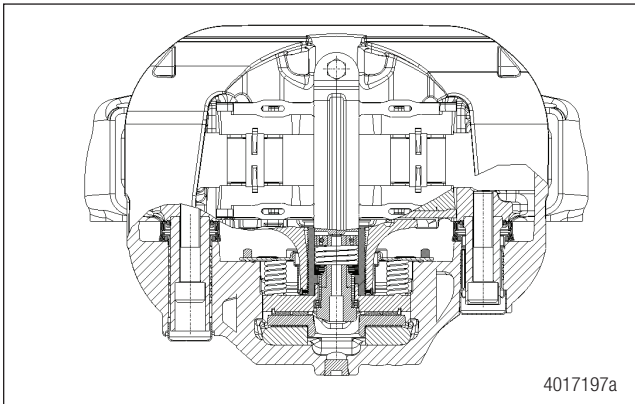
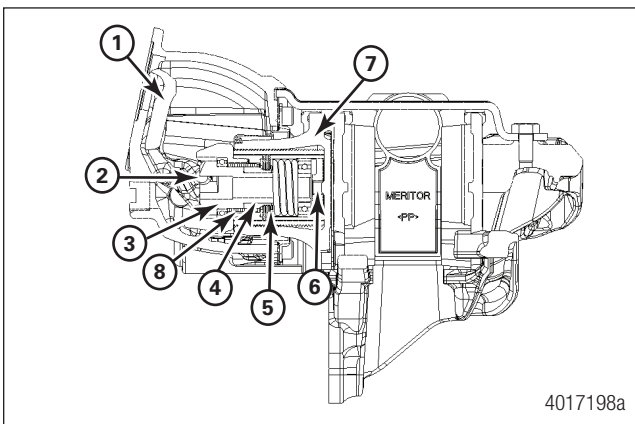

Figure 3.2 Top Down View
Figure 3.3 Side View
From the rest position, the air chamber push rod moves FORWARD, rotating the operating shaft (1). When the piston moves FORWARD through the built-in running clearance, the ball-ended drive pin (2) starts to contact the driving side of the fork on the end of the adjuster. Further movement of the air chamber push rod rotates the operating shaft, causing the adjuster to rotate because the built-in clearance has been taken up. The outer drive sleeve (4) is fixed to the adjuster insert (EU variants also have an adjuster stem) and is rotated by the inner drive (3) sleeve through frictional forces developed by the unidirectional spring (5). If the rotation is through less than the correct running clearance, the friction in the threads of the tappet and piston increases due to the clamping force on the pads. The piston (7) cannot rotate in the adjuster housing, and due to the high torque to turn the tappet, the clutch pack (8) slips, preventing adjustment of the mechanism below the correct running clearance. Figure 3.2 and Figure 3.3.